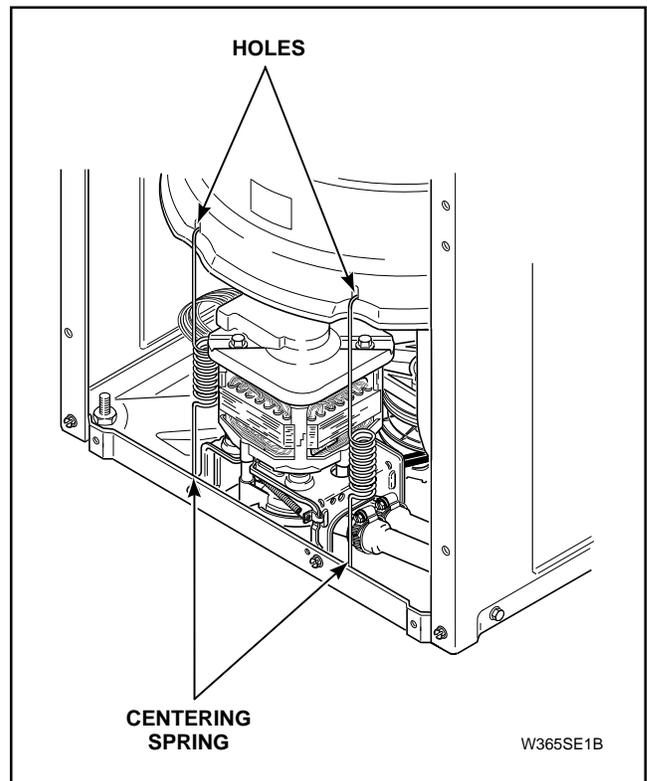

Figure 52
**IMPORTANT:** If switch lever repeatedly trips the out-of-balance switch, check centering of agitator within loading door opening. If tub module is not centered within opening, centering spring(s) may have been overstretched. Replace necessary spring(s) and recheck centering, *Figure 52*.